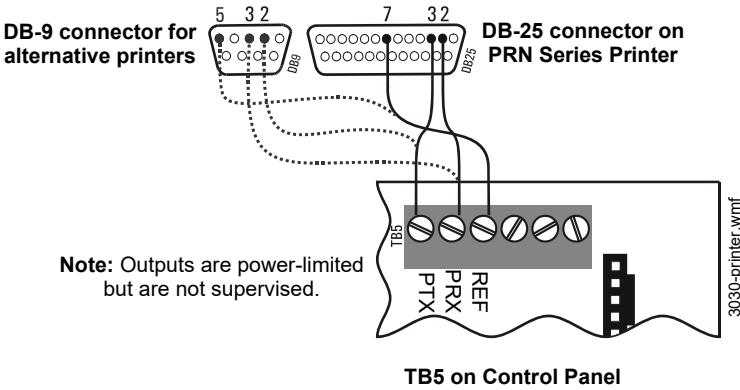

Figure 3.16 Printer Connections
- 1. Fabricate a custom cable to connect a printer to the system. Length of the cable will vary with each installation, but should not exceed a maximum length of 15 metres. Printer must be installed in the same room as panel. Using overall foil/braided-shield twisted-pair cable, properly connect one end to the DB-25 Connector (provided) using the wiring specifications shown in Figure 3.16.
**NOTE:** Alternative wiring specifications are also shown in Figure 3.16 for a printer with a 9-pin connector. Refer to printer manual for detailed connection information.
- 2. Tighten clamp on connector to secure cable. Connect the four open leads of the custom cable to the TB5 terminal block on the CPU as shown in Figure 3.16.